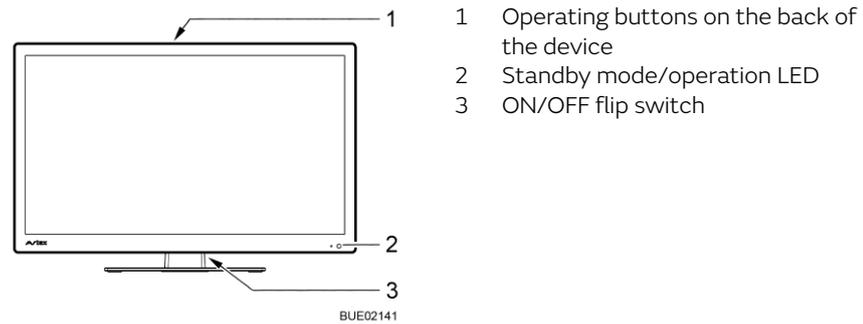
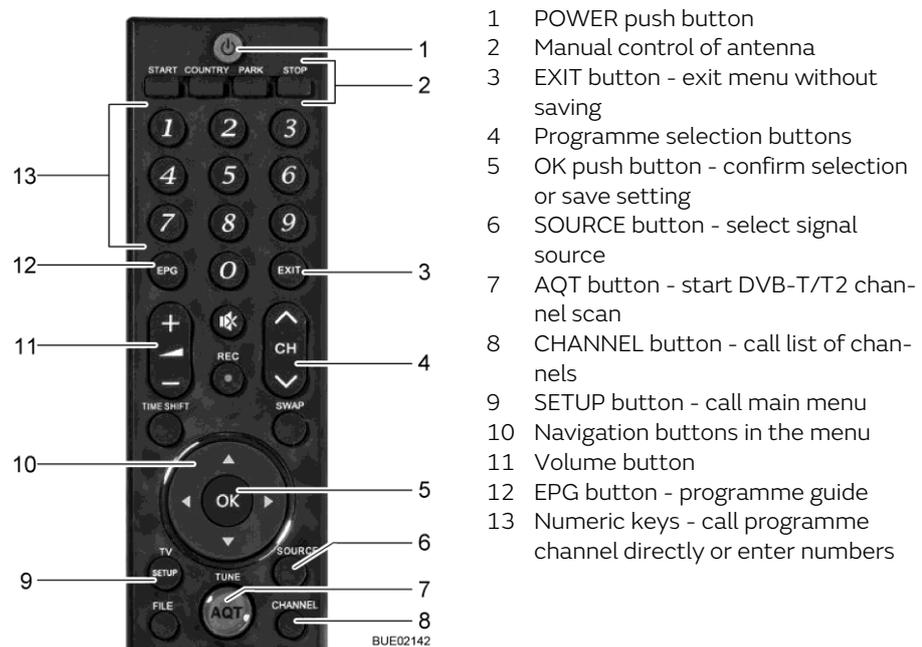

Fig. 46 Operation on the flat screen
Fig. 47 Remote control
- Set flip switch (Fig. 46,3) on the flat screen's back to ON. The system changes to standby mode. The LED (Fig. 46,2) is lit red.
- Press the POWER button (Fig. 47,1) on the remote control. The LED (Fig. 46,2) is lit blue.
- Press the programme selection buttons (Fig. 47,4 or Fig. 47,13) until the desired TV programme has been selected.
- Press the SOURCE button (Fig. 47,6) repeatedly until the desired signal source has been selected.
- Press the PARK button (Fig. 47,2). The antenna moves into parking position.
- Press the SOURCE button (Fig. 47,6) repeatedly until the desired signal source (e.g. DVD) has been selected.
- Press the POWER button (Fig. 47,1) on the remote control. The system changes to standby mode. The LED (Fig. 46,2) is lit red.
- Set flip switch (Fig. 46,3) on the flat screen's back to OFF.